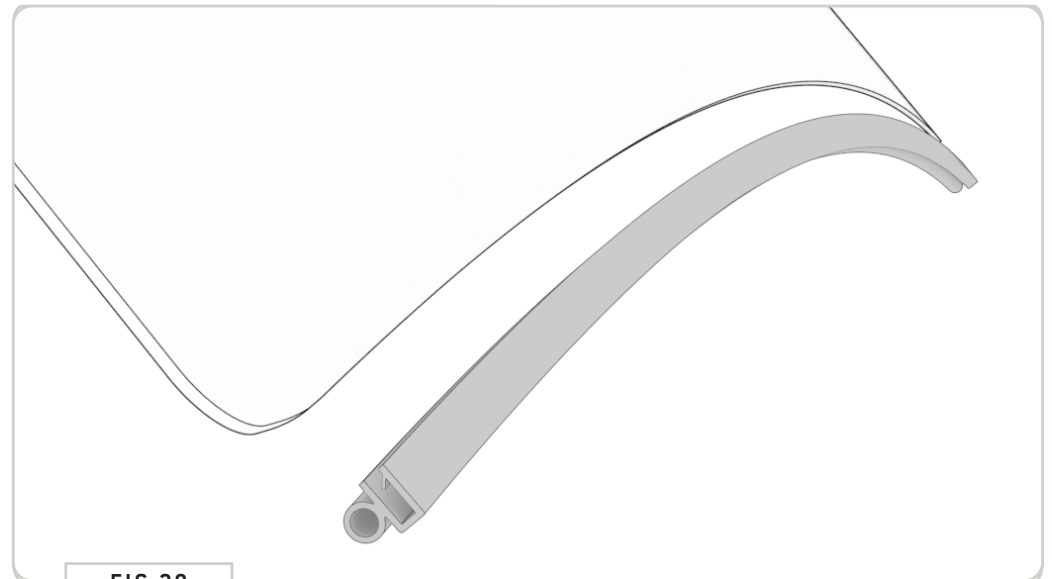

FIG 20
5.5 Attach Trim Gasket: Complete the assembly by attaching the **Trim Gasket (FIG 20)**. Make sure that the "bulbed" side of the trim is facing the Crossbar, as that will be the part that sits against the van.